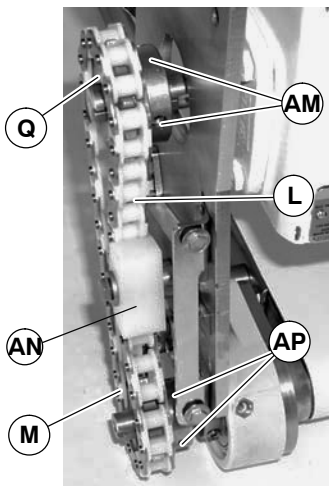

Figure 32
IMPORTANT: Make sure center of timing chain (L of Figure 32) aligns with center of chain tensioner (AN). If necessary, move drive sprocket (Q) in or out and then tighten set screws (AM). Also, if necessary, move driven sprocket (M) in or out and then tighten set screws (AP).